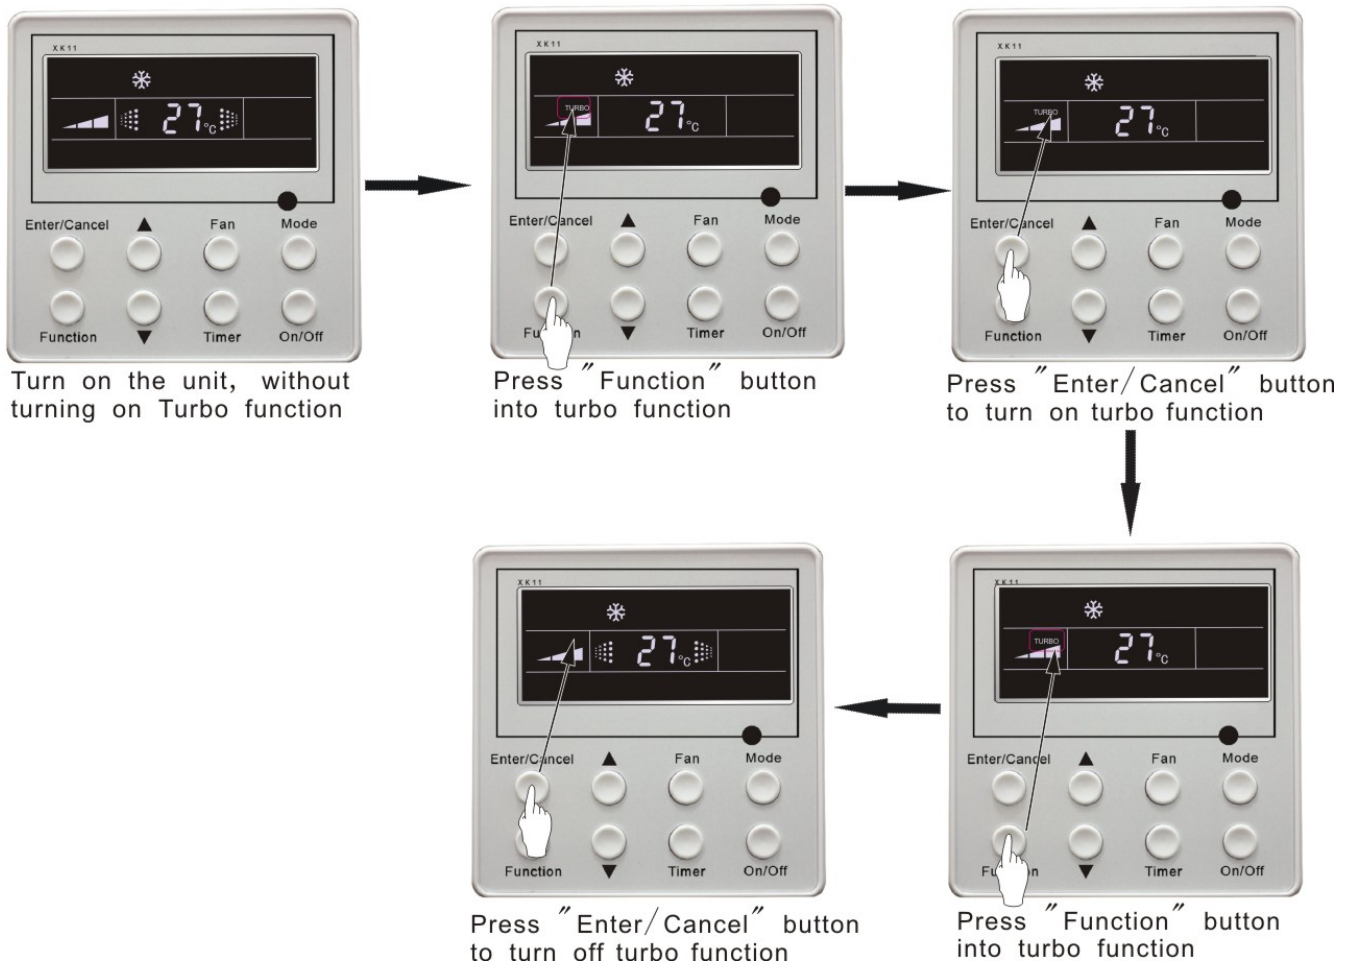

Fig.5-13 Turbo Function Setting
**TURBO** function setting is shown in Fig.5-13